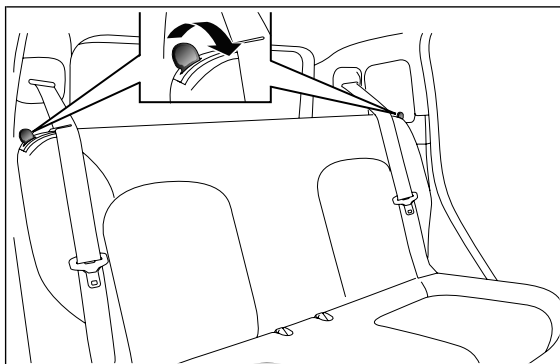

fig. 57
- ☐ operate the levers at the sides of the rear seats fig. 57 pushing them towards the inside of the car; fold the backrest and then bring the backrest onto the cushion.